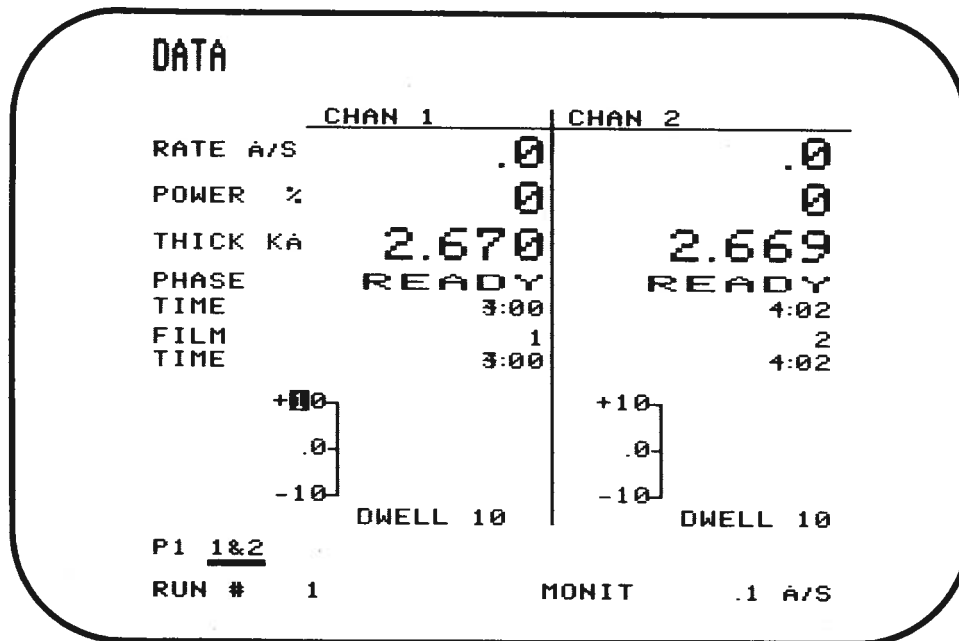

Figure 2.22 DATA Display
2.3.3 DATA DISPLAY (Figure 2.22)